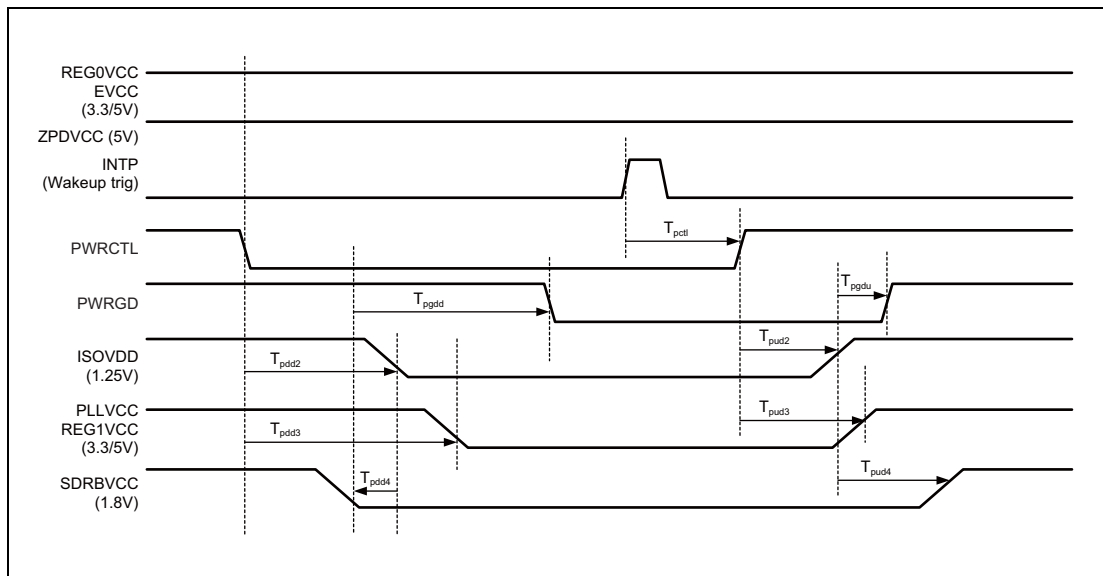

Figure 1.8 DeepSTOP Enter/Exit Sequence
- PWRGD shutdown to ISOVDD fail is not relevant in case D1M2(H) successfully entered the deep-stop mode. For this case please refer to **Figure 1.8**.